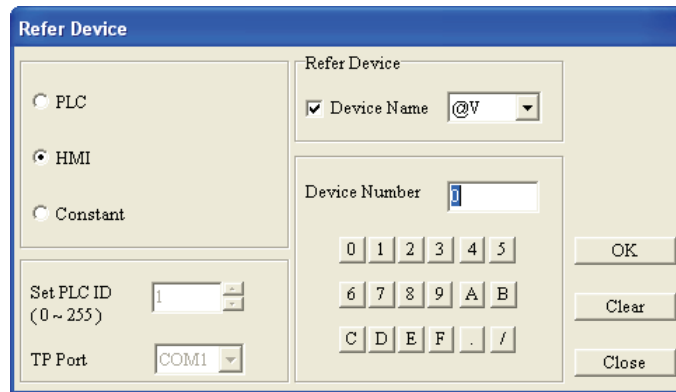

Figure 1-143
Step 3. Set the Source Setting and Target Setting. When **Var1**, **Var2** or **Var3** button is pressed, the following Refer Device tab will appear (Figure 1-143) and the users can perform the settings by requirements. After completing the settings, press **Close** button to save the settings, exit the Refer Device tab and return to Macro Instruction tab (Figure 144).